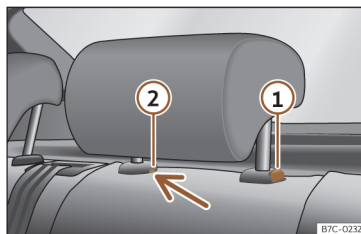

Fig. 101 Rear headrest: removal.
- Press button»» Fig. 101 ①, while simultaneously pressing on the security hole ② with a flat screwdriver a maximum of 5 mm wide, and remove the headrest.